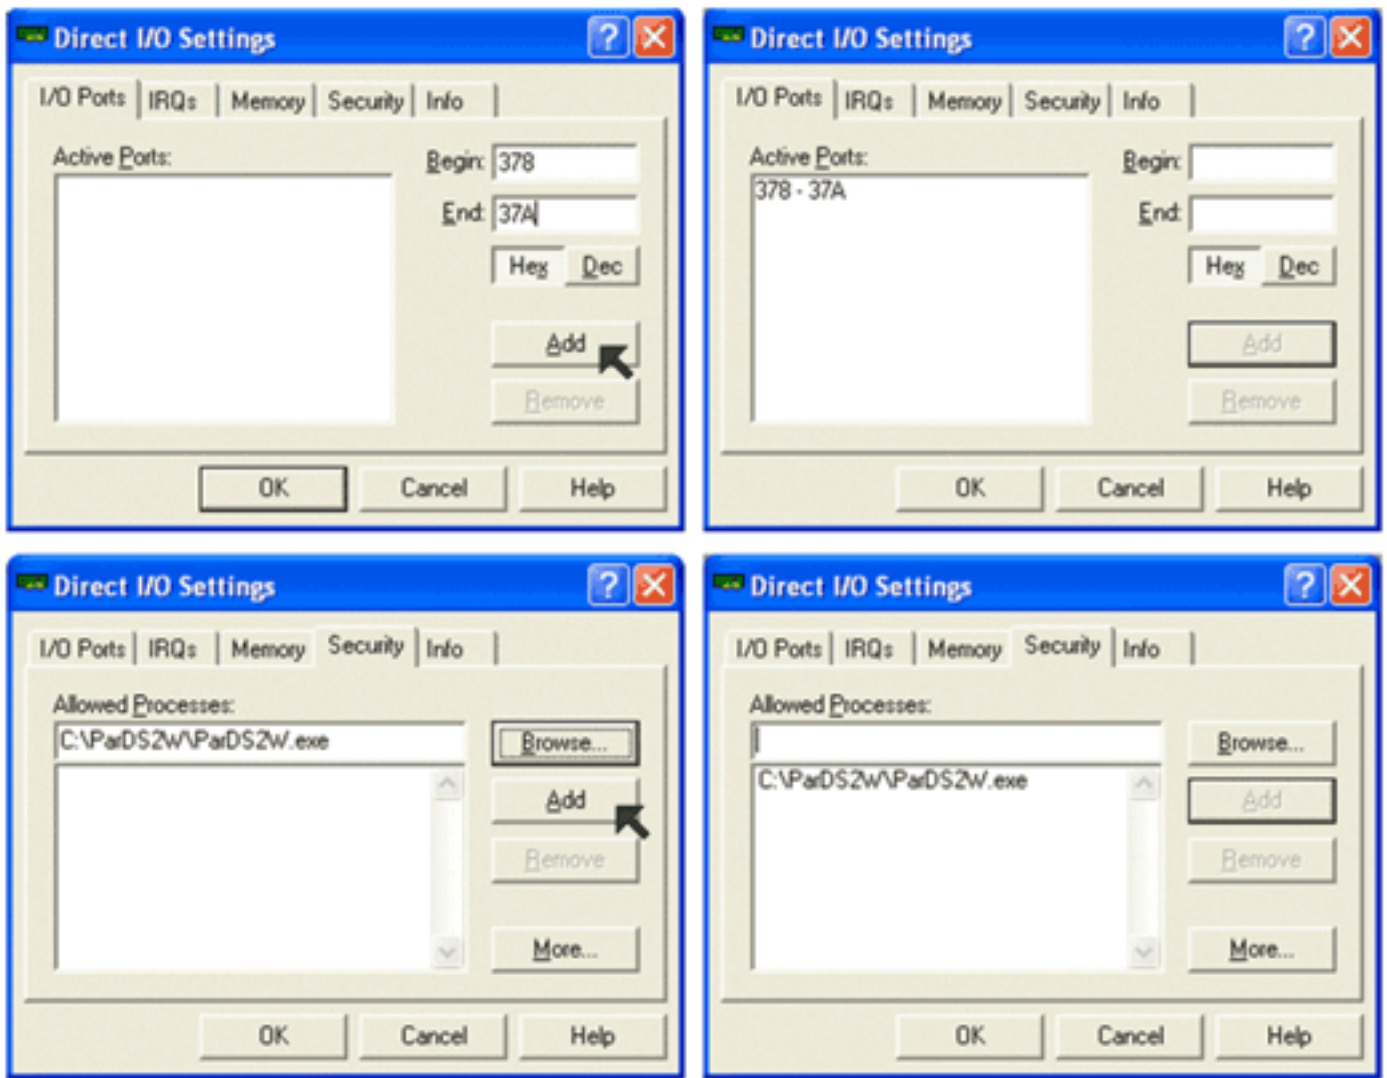

Figure 1. Configuring Direct I/O to Work with ParDS2W.exe
3. Once Direct I/O is installed, start the Direct I/O control panel (Figure 1) from the start